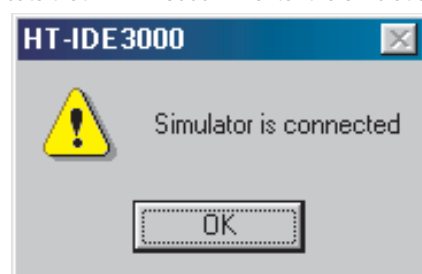

Fig 3-4
- If the last project you work on HT-IDE3000 is in simulation mode (using Simulator), then Fig 3-4 will be displayed to indicate that HT-IDE3000 will enter the simulation mode.